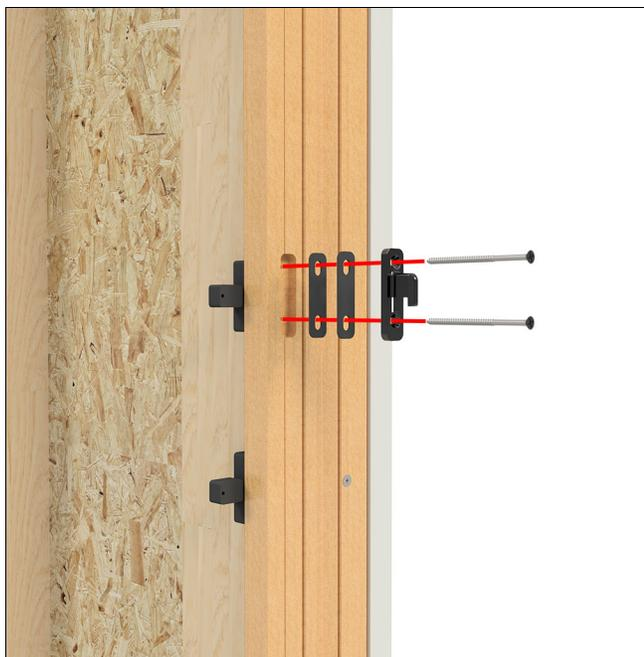

Figure 50
**3. Keeper Adjustment:** With the panel properly aligned, check to make sure it locks correctly. There are two plastic shims behind the keepers and panel guides that will allow some adjustment to move the hardware in and subsequently make the panel close tighter when locked. See Figure 50.